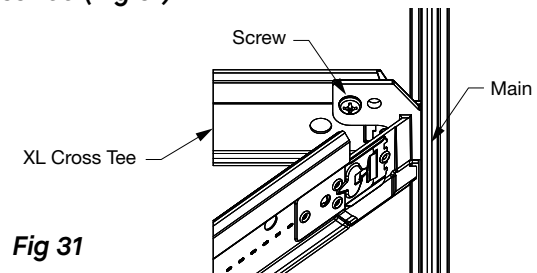

Fig 31
2. Place the cross tee into position, intersecting at a 90° corner. The overrides on the Corner Bracket should be flush with the main and XL Cross Tee (**Fig 31**).